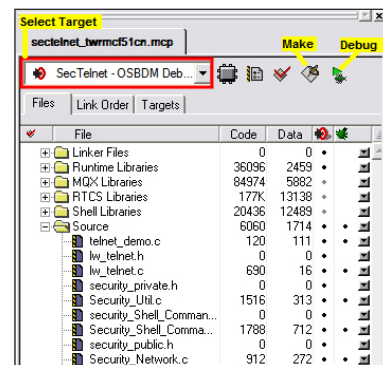

Figure 2: Project Loaded in the CodeWarrior IDE
8. In the project pane, select the "SecTelnet - OSBDM Debug Int Flash" build target. See Figure 2.
10. Open the Security.h file in the CodeWarrior window. Double-click the file item located in the "Source" group in the CodeWarrior project tree. See Figure 2.
12. Compile the project by pressing the F7 key or by clicking the Make icon on the project pane toolbar. This icon is identified in Figure 2.
13. Now start debugger by clicking the Debug icon. This icon is identified in Figure 2.